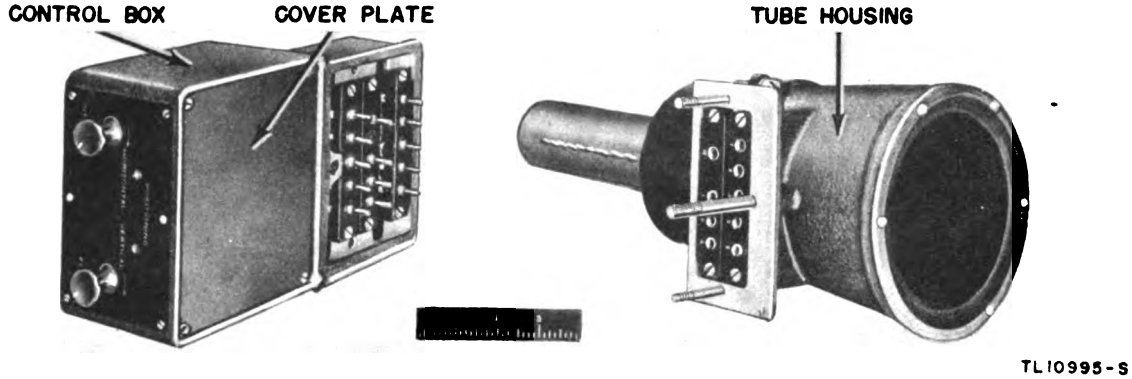

Figure 116. Control-box and cathode-ray tube housing showing controls and connecting pins.
(1) Swing back the optical housing, lower the control box and remove the tube and tube housing (figs. 116 and 117).